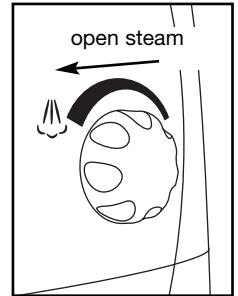

Fig. 9
2. Steam knob (fig. 9)
4. Open the steam knob (fig. 9). Wait until all steam is released.
1. Make sure the machine is plugged in and turned off. The glass carafe is removed from the drip tray. **Important:** The steam knob (fig. 9) must be in the closed position. The coffee/steam selector points to the cup symbol in front of the machine (stronger coffee). Moving the coffee/steam selector to the right, accelerates brewing and decreases coffee strength.
5. With the right hand slowly turn the steam knob towards the steam symbol (fig. 9 &10). Steam will push out into the pitcher. The more you open the steam knob the more steam will be released. If the steam is too powerful, turn the steam knob back to reduce the steam output. This procedure might take a little practice (see below). Once you have injected enough steam into your milk, turn the steam knob back to stop the steam output completely. Set the pitcher with the frothed milk aside. **Caution:** The steam pipe is hot